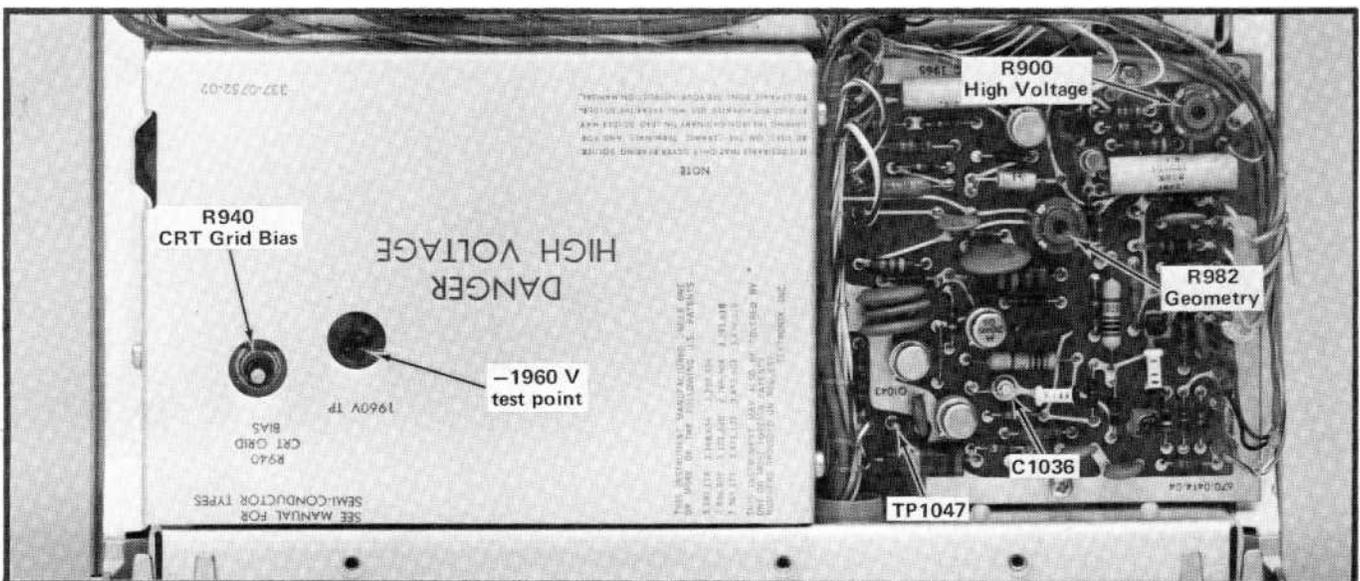

Fig. 5-5. Location of high-voltage and Z-axis test points and adjustments (bottom of instrument).
a. Connect the DC voltmeter (VOM)⁴ between the -1960 V test point (see Fig. 5-5) and chassis ground.
c. ADJUST—High Voltage adjustment R900 (see Fig. 5-5) for -1960 volts.
- a. Connect the DC voltmeter (VOM) between TP1047 (see Fig. 5-5) and chassis ground.
- d. ADJUST—CRT Grid Bias adjustment R940 (see Fig. 5-5) so the dot on the CRT is just extinguished (it may be necessary to turn the horizontal POSITION control clockwise to bring the dot onto the viewing area).
f. ADJUST—Geometry adjustment R982 (see Fig. 5-5) for minimum bowing of the trace at the left and right edges of the graticule.
c. Connect the probe tip to TP1047 (see Fig. 5-5); connect the probe ground to chassis ground with a short grounding strap.
g. ADJUST—C1036 (see Fig. 5-5) for optimum square corner on the unblanking gate.